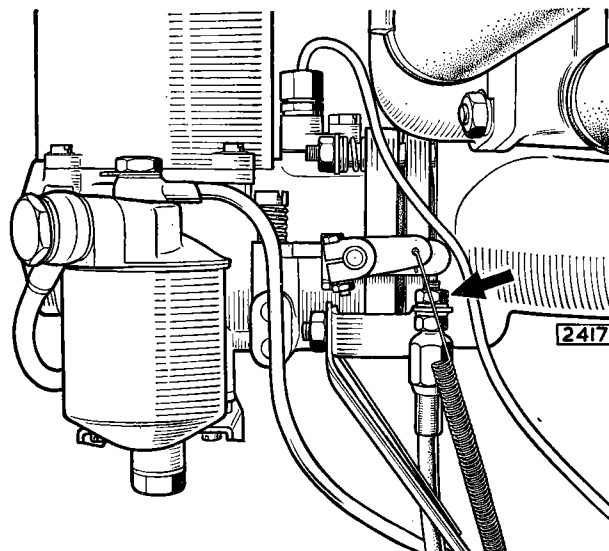

Fig. 6. Anti-creep throttle switch
1. Slacken the locknut retaining the anti-creep throttle switch (see Fig. 6) and screw the switch downwards out of operation.